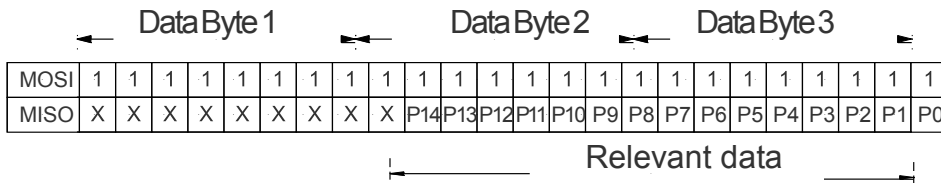

Fig. 2: 3 byte data stream between HCE sensor and master containing the pressure value as a 15 bit information
**DATA operation:** The MOSI line should always be set to high level. So there is no data transmission from master to slave. Because of internal configuration the slave will answer the first byte with an FFh. The second and third byte contain the 15 bit pressure information (see Fig. 2).